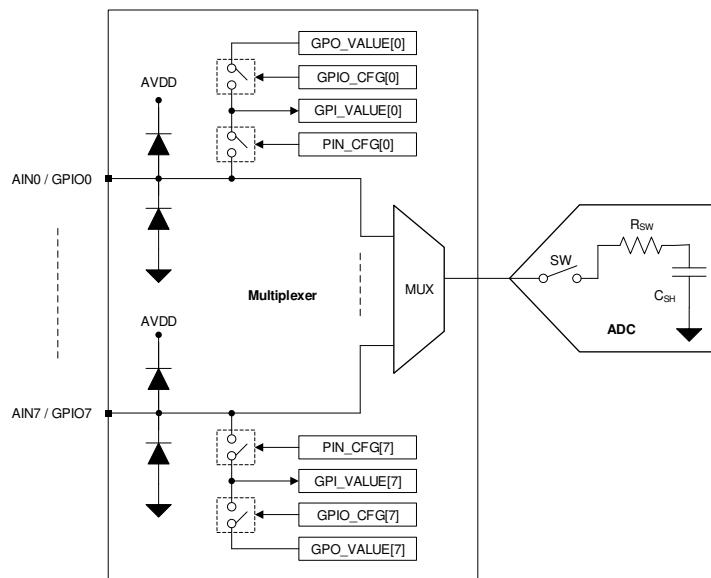

图 7-1. Analog Inputs, GPIOs, and ADC Connections
The eight channels of the multiplexer can be independently configured as ADC inputs or general-purpose inputs/outputs (GPIOs). As shown in 图 7-1, each input pin has ESD protection diodes to AVDD and GND. On power-up or after device reset, all eight channels of the multiplexer are configured as analog inputs.
图 7-1 shows an equivalent circuit for the pins configured as analog inputs. The ADC sampling switch is represented by an ideal switch (SW) in series with a resistor (R_{sw} , typically $150\ \Omega$) and a sampling capacitor (C_{sh} , typically $30\ pF$). During acquisition, the SW switch is closed to allow the signal on the selected analog input channel to charge the internal sampling capacitor. During conversion, the SW switch is opened to disconnect the analog input channel from the sampling capacitor.
To enable write access to the configuration registers for diagnostics, write 0x96 in the DIAGNOSTICS_KEY register. To enable bit-walk test mode, configure BITWALK_EN = 1b. In the bit-walk test mode (see 图 7-1), the sampling switch (SW) remains open and the test voltage is applied on the sampling capacitor (C_{SH}) during the acquisition phase of the ADC. In diagnostic mode, the conversion process of the ADC remains the same as normal device operation. The ADC starts the conversion phase on the rising edge of \overline{CS} and outputs the code corresponding to the sampled test voltage. The output code of the ADC is expected to be proportional to the test voltage, as shown in 方程式 2, after adjusting for DC errors (such as INL, gain error, offset error, and thermal drift of offset and gain errors).